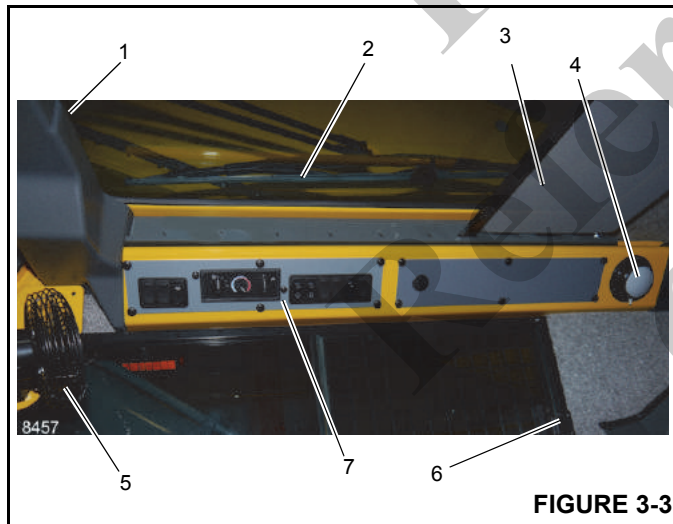

FIGURE 3-3
The Skylight Window Latch (1) (Figure 3-3) is at the front of the window. Squeeze the latch and slide the window to the rear to open. To close slide the window forward until the latch engages.
The Skylight Wiper (2) (Figure 3-3) is controlled by the Skylight Wiper Switch, (4) (Figure 3-4), and operated by the Wiper Motor.
The Skylight Sunscreen (3) (Figure 3-3) is used to diminish direct sunlight. The sunscreen is self retracting and can be set to screen all the light or adjusted rearward by moving it into the notches provided.
The cab Dome Light (4) (Figure 3-3) is on the right rear corner of the cab overhead console and provides illumination in the cab. The dome light is controlled by a switch on the light.
The Cab Circulating Fan (5) (Figure 3-3) is located on the left front side of the cab, above the window frame. A swivel allows the fan to be rotated and a switch on the fan base controls the fan. The switch has a high, low and off position.
The window on the right side of the cab can be opened. Squeeze latch (6) (Figure 3-3) to release and slide forward. To close, slide the window rearward until the latch engages.